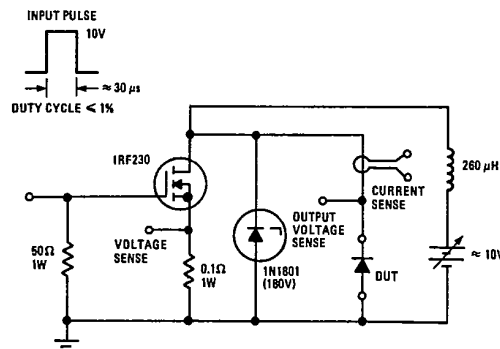

Fig. 11 - I_{RRM} Test Circuit
⑤ I^2t for time $t_x = I^2\sqrt{t} \cdot \sqrt{t_x}$.
⑥ For test circuit refer to Fig. 11.